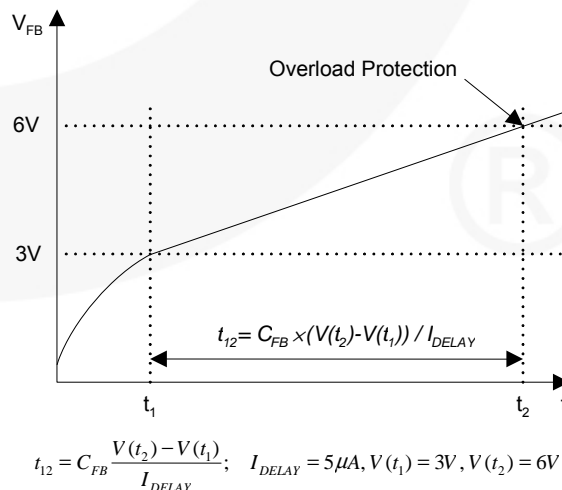

### Figure 14. Pulse Width Modulation (PWM) Circuit
**2. Feedback Control:** The 700V FPS series employs Current Mode control, as shown in Figure 14. An optocoupler (such as the H11A817A) and shunt regulator (such as the KA431) are typically used to implement the feedback network. Comparing the feedback voltage with the voltage across the  $R_{\text{sense}}$  resistor of SenseFET, plus an offset voltage, makes it possible to control the switching duty cycle. When the regulator reference pin voltage exceeds the internal reference voltage of 2.5V; the optocoupler LED current increases, feedback voltage  $V_{fb}$  is pulled down, and the duty cycle is reduced. This typically occurs when the input voltage increases or the output load decreases.
**4.3 Over-Voltage Protection (OVP):** In the event of a malfunction in the secondary-side feedback circuit or an open feedback loop caused by a soldering defect, the current through the optocoupler transistor becomes almost zero (refer to Figure 14). Then,  $V_{FB}$  climbs up in a similar manner to the overload situation, forcing the preset maximum current to be supplied to the SMPS until the overload protection is activated. Because excess energy is provided to the output, the output voltage may exceed the rated voltage before the overload protection is activated, resulting in the breakdown of the devices in the secondary side. To prevent this situation, an Over-Voltage Protection (OVP) circuit is employed. In general,  $V_{CC}$  is proportional to the output voltage and the FPS uses  $V_{CC}$  instead of directly monitoring the output voltage. If  $V_{CC}$  exceeds 19V, the OVP circuit is activated, terminating switching. To avoid undesired activation of OVP during normal operation,  $V_{CC}$  should be designed to be below 19V.